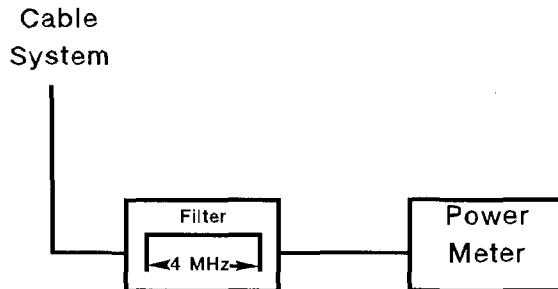
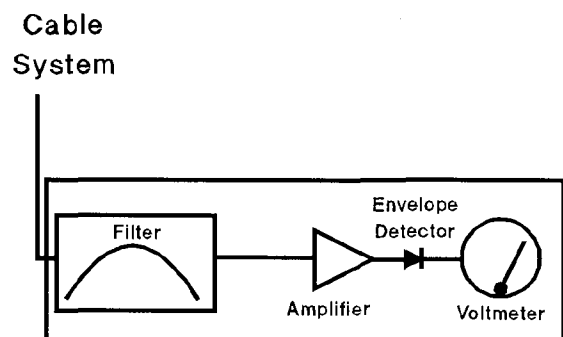

Fig 2 - Ideal World Setup
Fig 4 - Spectrum Analyzer
Now that we have dealt with the filter in Figure 2, let's consider the power meter. Again, the ideal world setup doesn't work. This is because power meters cannot directly measure the low levels of noise we need to measure. So we have to add an amplifier to bring the noise level up to what the meter can measure. But the amplifier adds its own noise. How much? What other effects could it have on the measurement?
In Figure 4 we have transformed the ideal, but impractical setup of Figure 2 into a real world, practical measurement setup through the use of these three correction factors:
The setup in Figure 4 performs well when measuring C/N in high level parts of the distribution system, such as at line extender outputs. However,
51.67 dB C/N is now the value we would have measured with the ideal Figure 2 setup if it were possible.